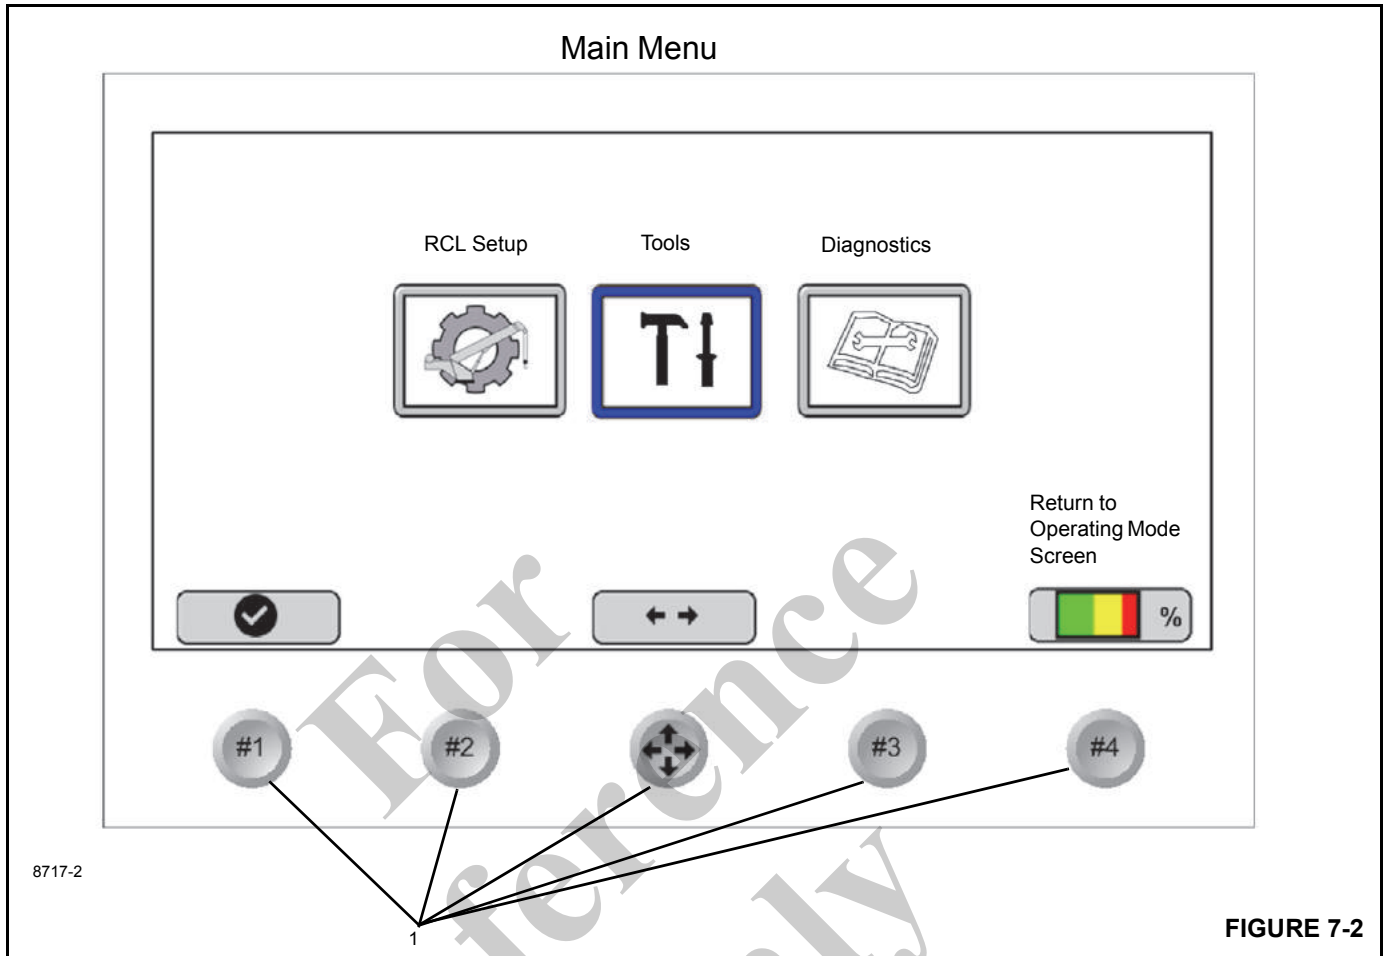

FIGURE 7-2
The **Main Menu** screen (Figure 7-2) is divided into the following three major sections which are used to set-up, operate, calibrate and troubleshoot the Rated Capacity Limiter (RCL) system.
- **RCL Set-Up** — Highlight and press Select function key (Figure 7-2) to configure the RCL system. This screen includes configuration and establishing operational limits for the boom, outrigger, hoist, and reeving. The RCL Set-Up screen also includes the RCL operating mode screen, see page 7-4.
- **Tools** — Highlight and Select function key (Figure 7-2) to access the tools screen, see page 7-14. This screen includes RCL Setup and Sensor Calibration Screens and Measurement Display Information.
- **Diagnostic** — Highlight and press the Select function key #3 (Figure 7-2) to access the RCL diagnostic menu, see page 7-19. This menu
The **Main Menu** screen has *function keys* (Figure 7-2) that are used to highlight and select the functions shown on the display screen.
**NOTE:** On start up of the RCL, the Manitowoc splash screen and the National Crane logo screen will appear for a few seconds each before the Main Menu Screen appears (Figure 7-2).
Select the RCL setup icon on the main menu to begin RCL setup (Figure 7-2).